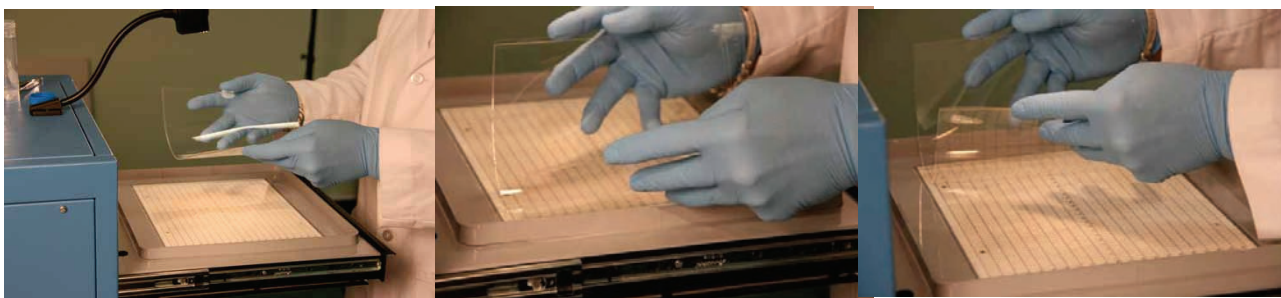

Fig. 5.4: Placing the gel on the cooling plate.
5. Grip the gel (surface up) at the two lateral edges at the protruding film, bend into a "U-shape" and slide the film-backing left and right on the cooling plate to distribute the cool contact fluid evenly (Fig. 5.4).